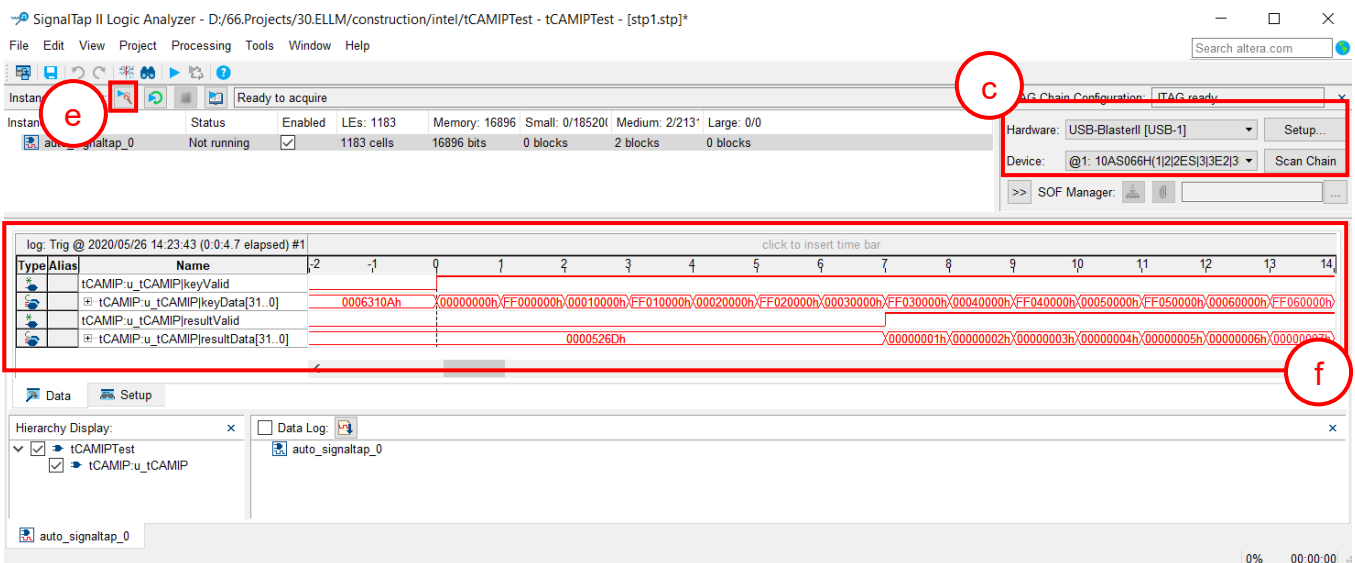

Figure 4-3 SignalTap II Logic Analyzer
- As in Figure 4-3, connect FPGA board by select Hardware to USB-BlasterII.